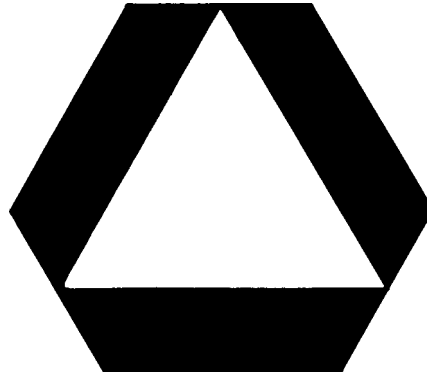

FIGURE 1
Attach the Rear Brace Bars (1) to the lugs on the rear of the deck with bolts (2) & locknuts (8). Attach the A-Frame Bars (4) to the lugs on the front of the deck with bolts (2) & locknuts (3). Attach the other end of the A-Frame Bars (4) at the top and between the Rear Brace Bars (1) and Top Link (5) with bolt (6), bushing (7) & nut (8). Attach the Top Link Pin (9) thru the Top Link and secure with Cotter Pin (10) **FIGURE 1.**
Attach the Lower Hitches (13) to Deck with the Spacer (14), Bolt (15) and Nut (16). Place the Lower Hitch Pins (17) thru the Lower Hitches and secure with Lynch Pins (18). FIGURE 1.
Always display this SMV emblem (**FIGURE 1**) on the rear of the tractor transporting this mower where it is clearly visible to oncoming traffic. Prominent display of this symbol will help the operator avoid accidents which could cause injury or possibly death.
Do not let excess grease collect on or around parts, particularly when operating in sandy areas. The illustrations below shows lubrication points. The chart gives the frequency of lubrication in hours, based on normal operating conditions. Severe or unusual conditions may require more frequent lubrication. **Figure 1.**
LUBRICATION FITTING LOCATION FIGURE 1